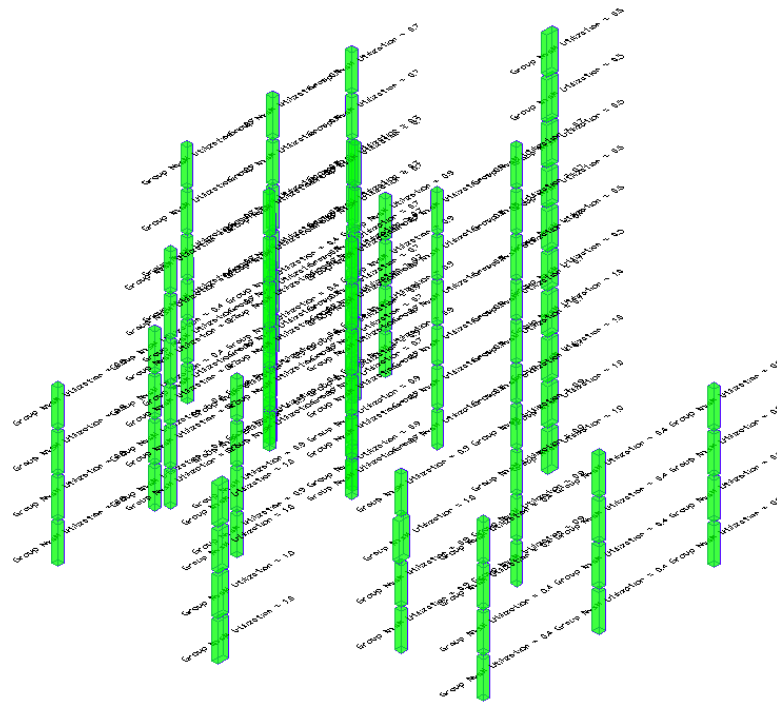

Figure 2-23 Status (Pass/Fail) for Design Group Results with 1.0 Utilization Limit
- It is possible to view these results in Pass/Fail mode as well. Select the *Result Display Settings* tab of *Result Display Settings* screen. Change Utilization to *Status* from *Value*, and click Apply. See **FIGURE 2-23**.